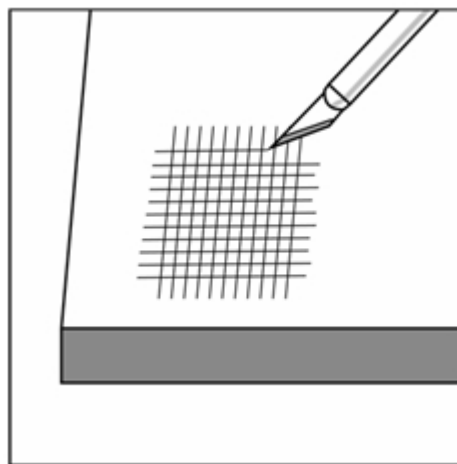

Figure 4d
2. Using a knife with a replaceable blade, make 11 parallel cuts $1/16''$ apart. At a 90° angle to the first set of 11 cuts and crossing them, make a second set of 11 parallel cuts, also $1/16''$ apart (Figure 4d). The purpose of the cuts is to break the film plane of the paint.